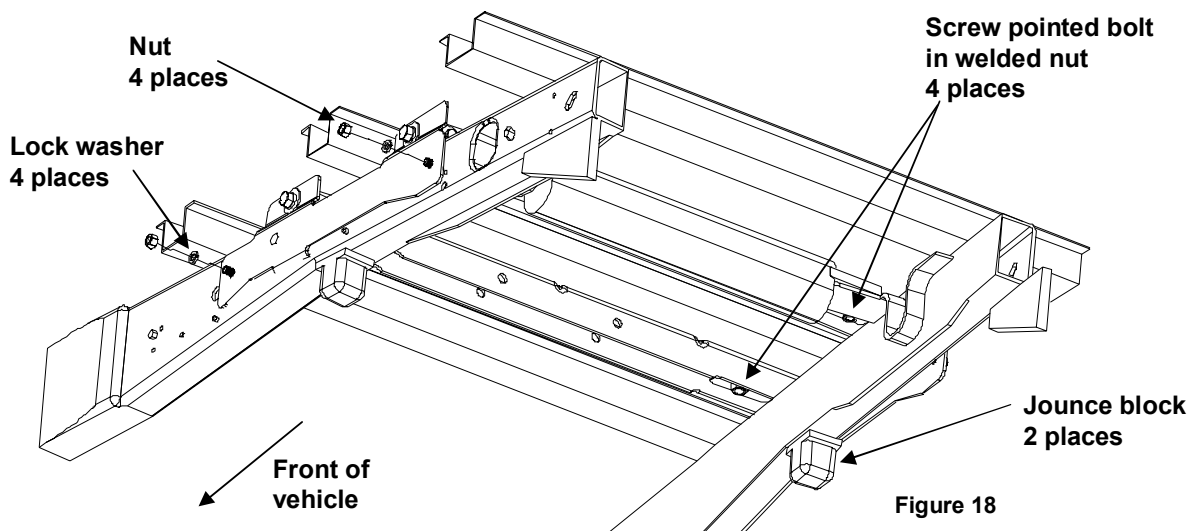

Figure 18
11. Loosely attach frame bracket to frame rails using 5/8" nuts and lock washers, tighten until hand tight (Figure 18). Re-attach jounce block to the chassis frame rail.
12. Using pointed bolt (**Figure 19**), screw pointed bolt in to the nut that is welded to the rail assembly until a prick mark is clearly visible on the truck bed (**Figure 18**). If access to the fourth welded nut is not possible due to vehicle obstructions, the fourth prick mark should be marked on the bed based upon measuring from the other prick marks (**Figure 20**). If you have a plastic bed liner cut 19" X 4" slots in plastic drop-in bed liner measured from prick marks in truck bed. If the *Signature Series* slider fifth wheel assembly is used, then see fifth wheel assembly instructions for slot cut dimensions.